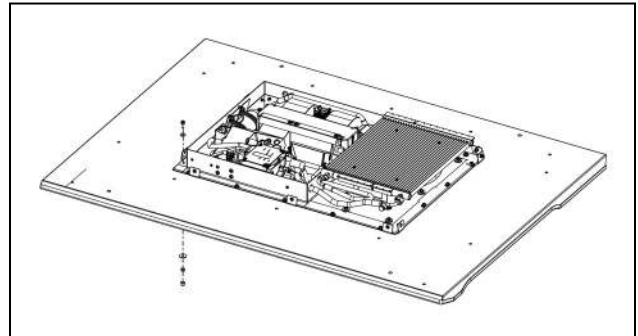

Fig. 2.1 Install A/C Unit
- 2.1 With assistance, place the air conditioner unit onto the roof, center it inside of the roof's rectangular opening. See Figure 2.1.